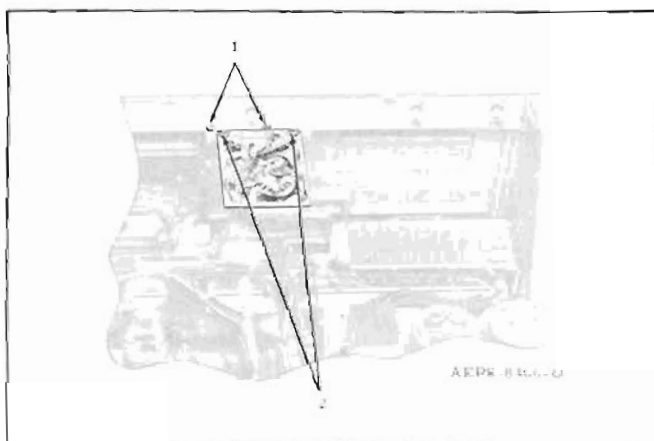

Figure 5. Bracket and Warning Light Circuit Board Installation
Step 1. Attach the metal bracket to the base station front panel with screws provided as indicated at item 1 in Figure 5.
Step 2. Attach the warning light circuit board to the metal bracket with screws provided as indicated at item 2 in Figure 5.